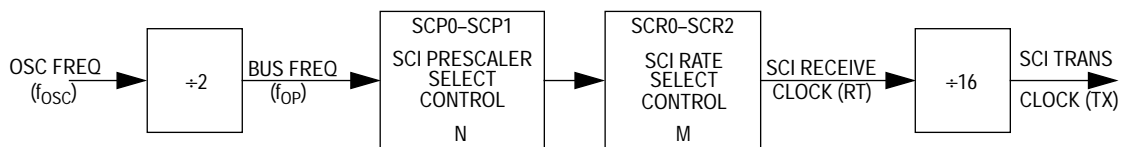

Figure 9-2. Rate Generator Division
interrupts are enabled). The transfer of data to the transmit data shift register is synchronized with the bit rate clock (see **Figure 9-2**). All data is transmitted least significant bit first. Upon completion of data transmission, the transmission complete flag (TC) in the SCSR is set (provided no pending data, preamble, or break is to be sent) and an interrupt is generated (if the transmit complete interrupt is enabled). If the transmitter is disabled, and the data, preamble, or break (in the transmit data shift register) has been sent, the TC bit will be set also. This will also generate an interrupt if the transmission complete interrupt enable bit (TCIE) is set. If the transmitter is disabled during a transmission, the character being transmitted will be completed before the transmitter gives up control of the TDO pin.